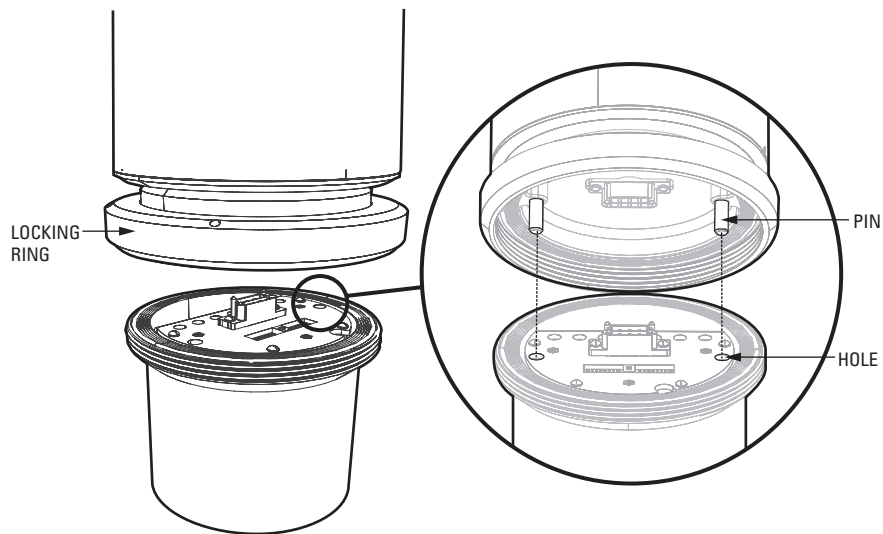

Figure 10. Attach the Pan and Tilt Unit to the Power Module
2. Refer to Figure 10 and attach the pan and tilt unit to the power module. Align the pins of the pan and tilt unit with the holes of the power module. Carefully mate the pan and tilt connector to the power module connector.